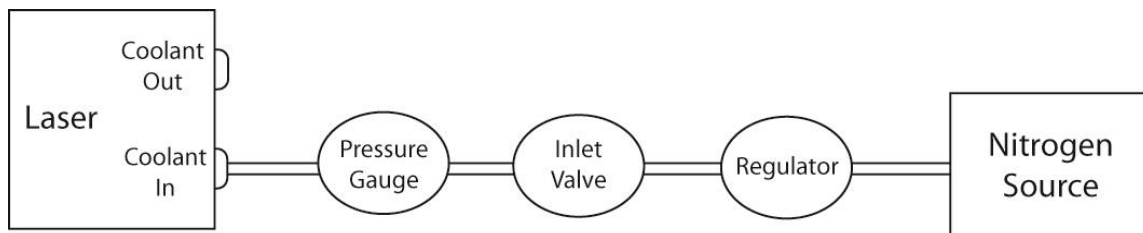

Figure 3-7 Nitrogen Leak Test Layout
- Attach a nitrogen source to the **COOLANT IN** port on the laser (see **Figure 3-7**).